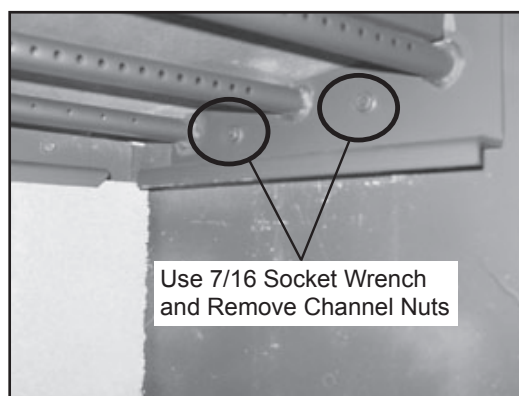

Figure 27.3
4. Slide the tube channel assembly all the way to left until it is off the threads. Drop the right side down, then slide the assembly back to right (**Figure 27.3**).